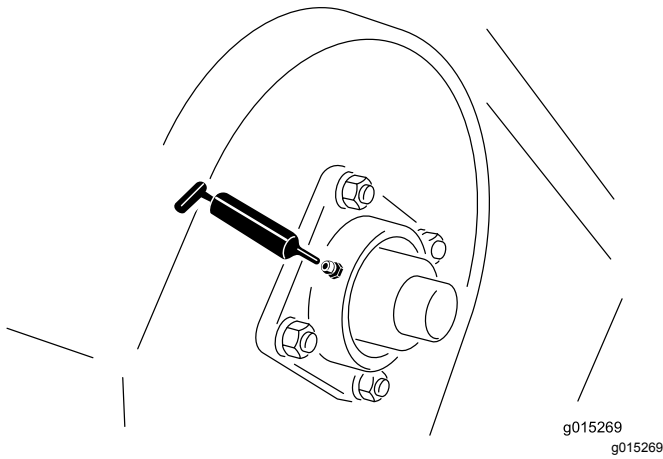
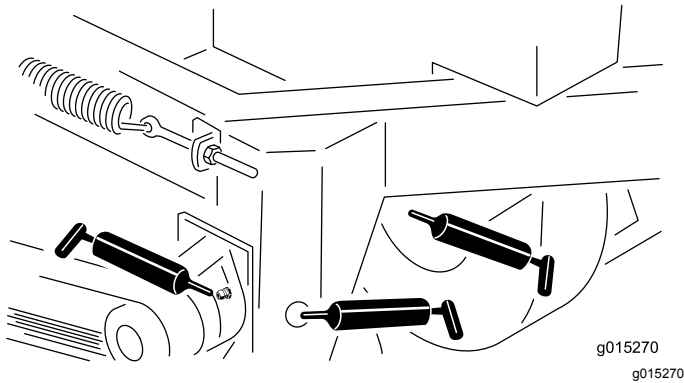

Figure 12
Figure 13
2. Pump grease into the bearing or bushing (Figure 11, Figure 12, and Figure 13).